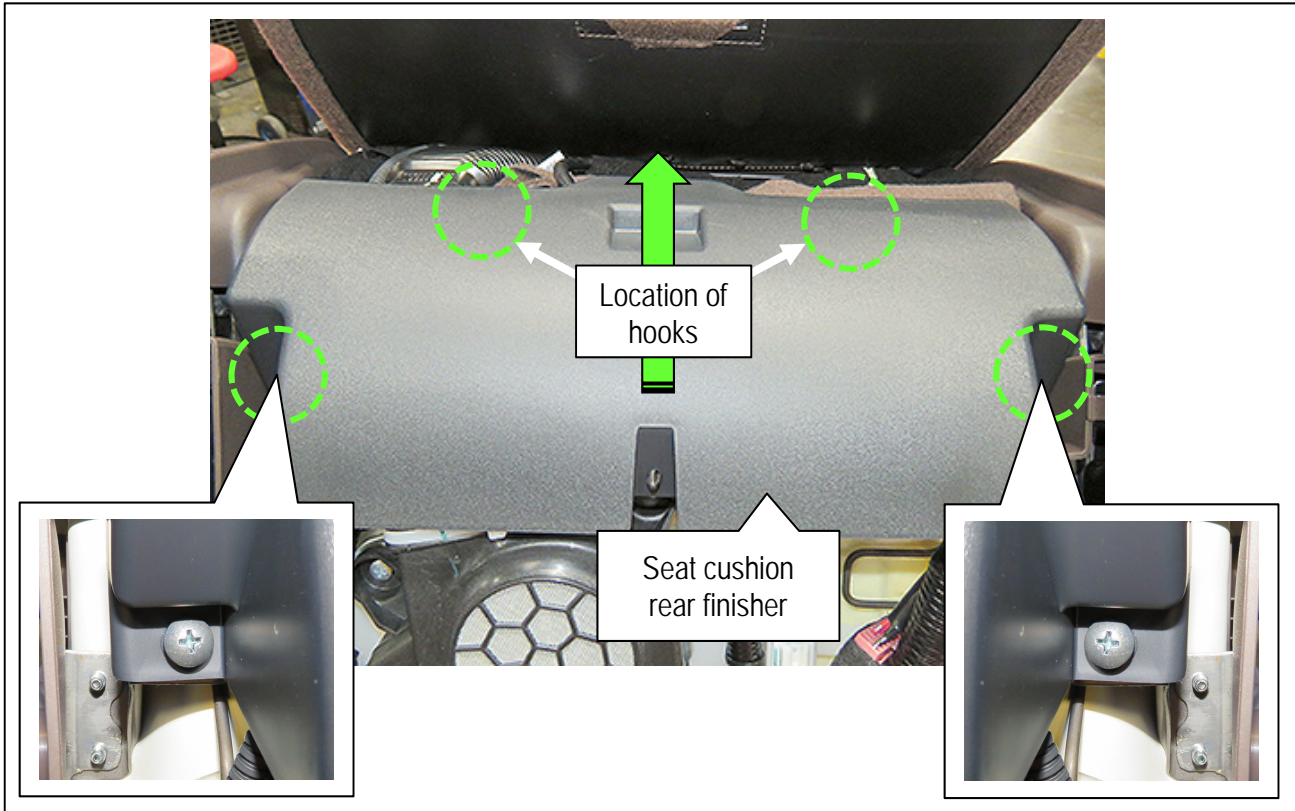

Figure 4
6. Remove two (2) screws and then unhook the seat cushion rear finisher by moving it in the direction indicated in Figure 4, and then move the seat cushion rear finisher out of the way.